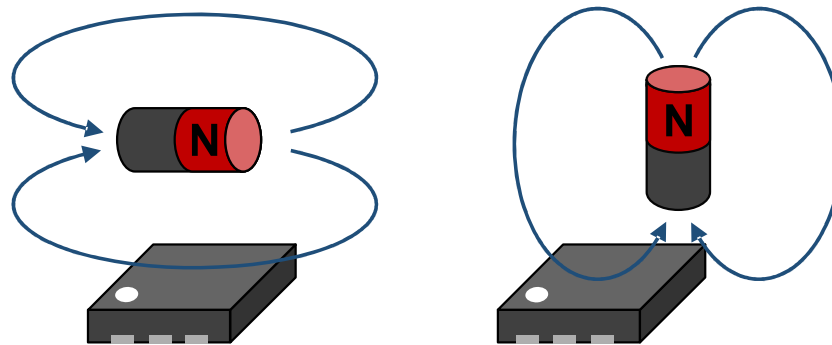

Figure 4. Planar magnetic sensitivity.
Unlike Hall Effect or other sensors, the direction of sensitivity of the ALT-Series TMR sensor is in the plane of the package, which is more convenient for many applications. Two alternative permanent magnet orientations are shown in Figure 4.
- Revised Fig. 4 (p. 4).